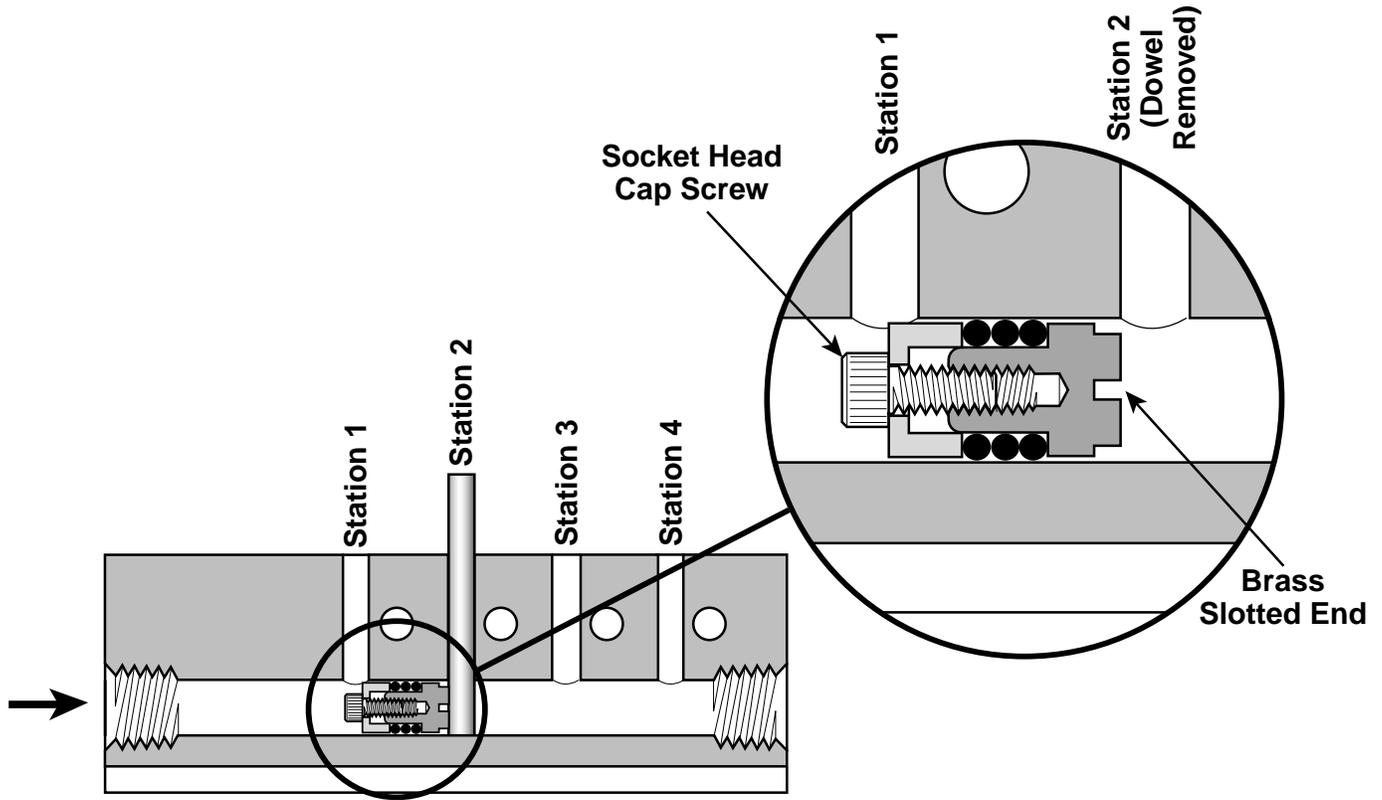
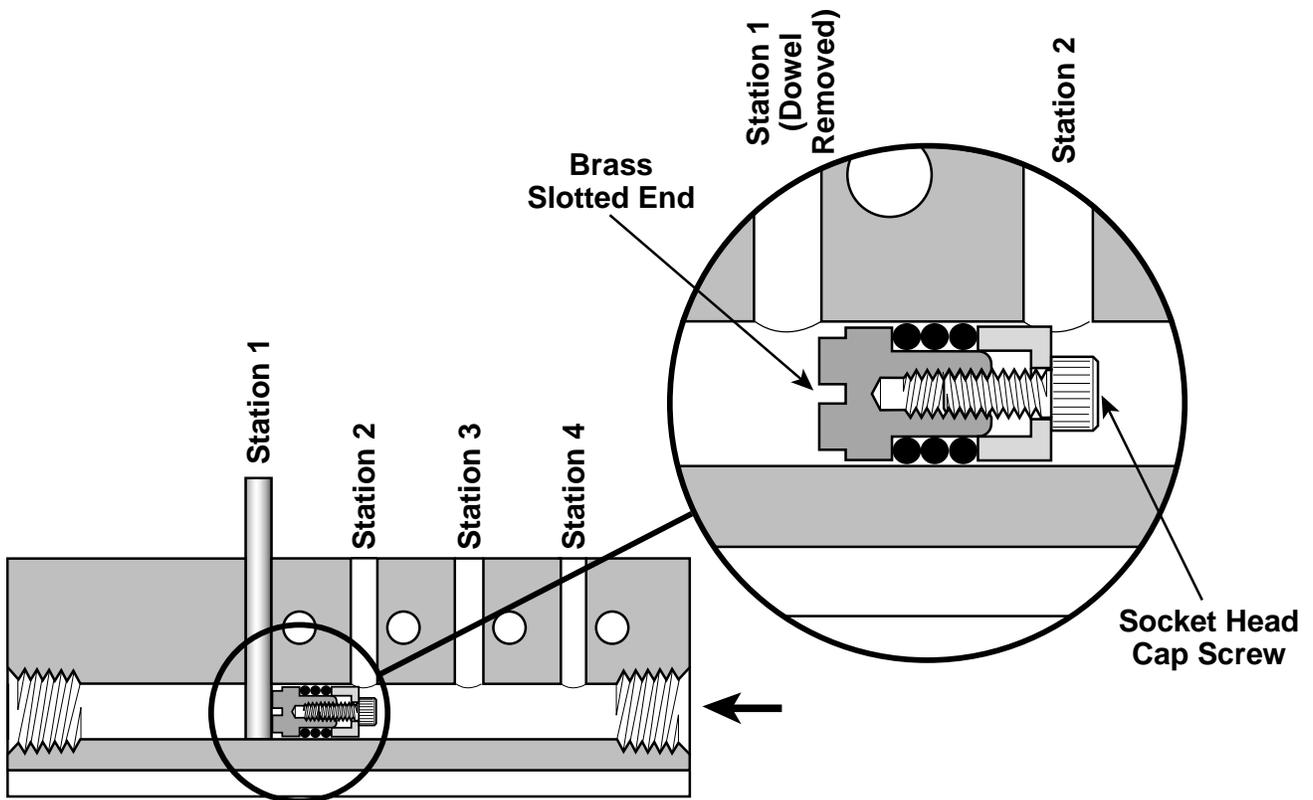

Figure 2
Figure 3
1. Before inserting the isolation plug into the manifold (Figure 1), determine the best location and orientation for the isolator plug. The location and orientation of the plug may be affected by the length of the manifold and the length of available tools. Figure 2 and Figure 3 both show isolation between station 1 and 2. Note that there is a choice of orientation for the isolation plug.